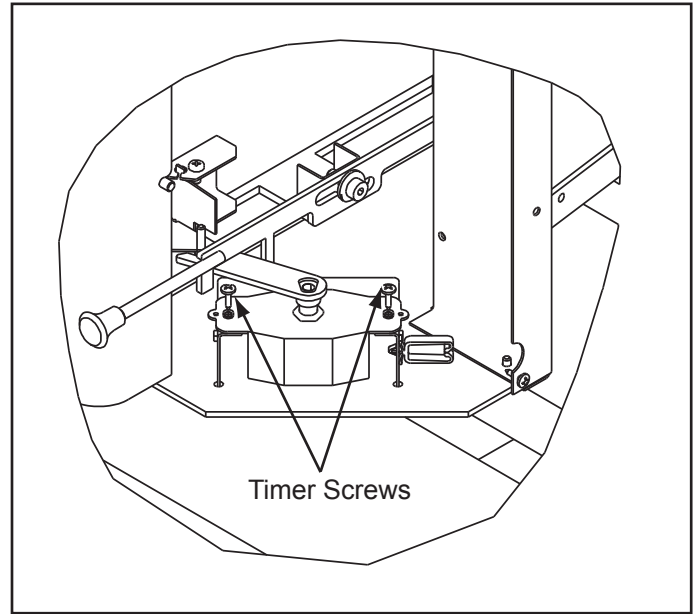

Figure 18.1
2. Remove the 2 screws holding the timer assembly in place and remove the timer. **Figure 18.1.**